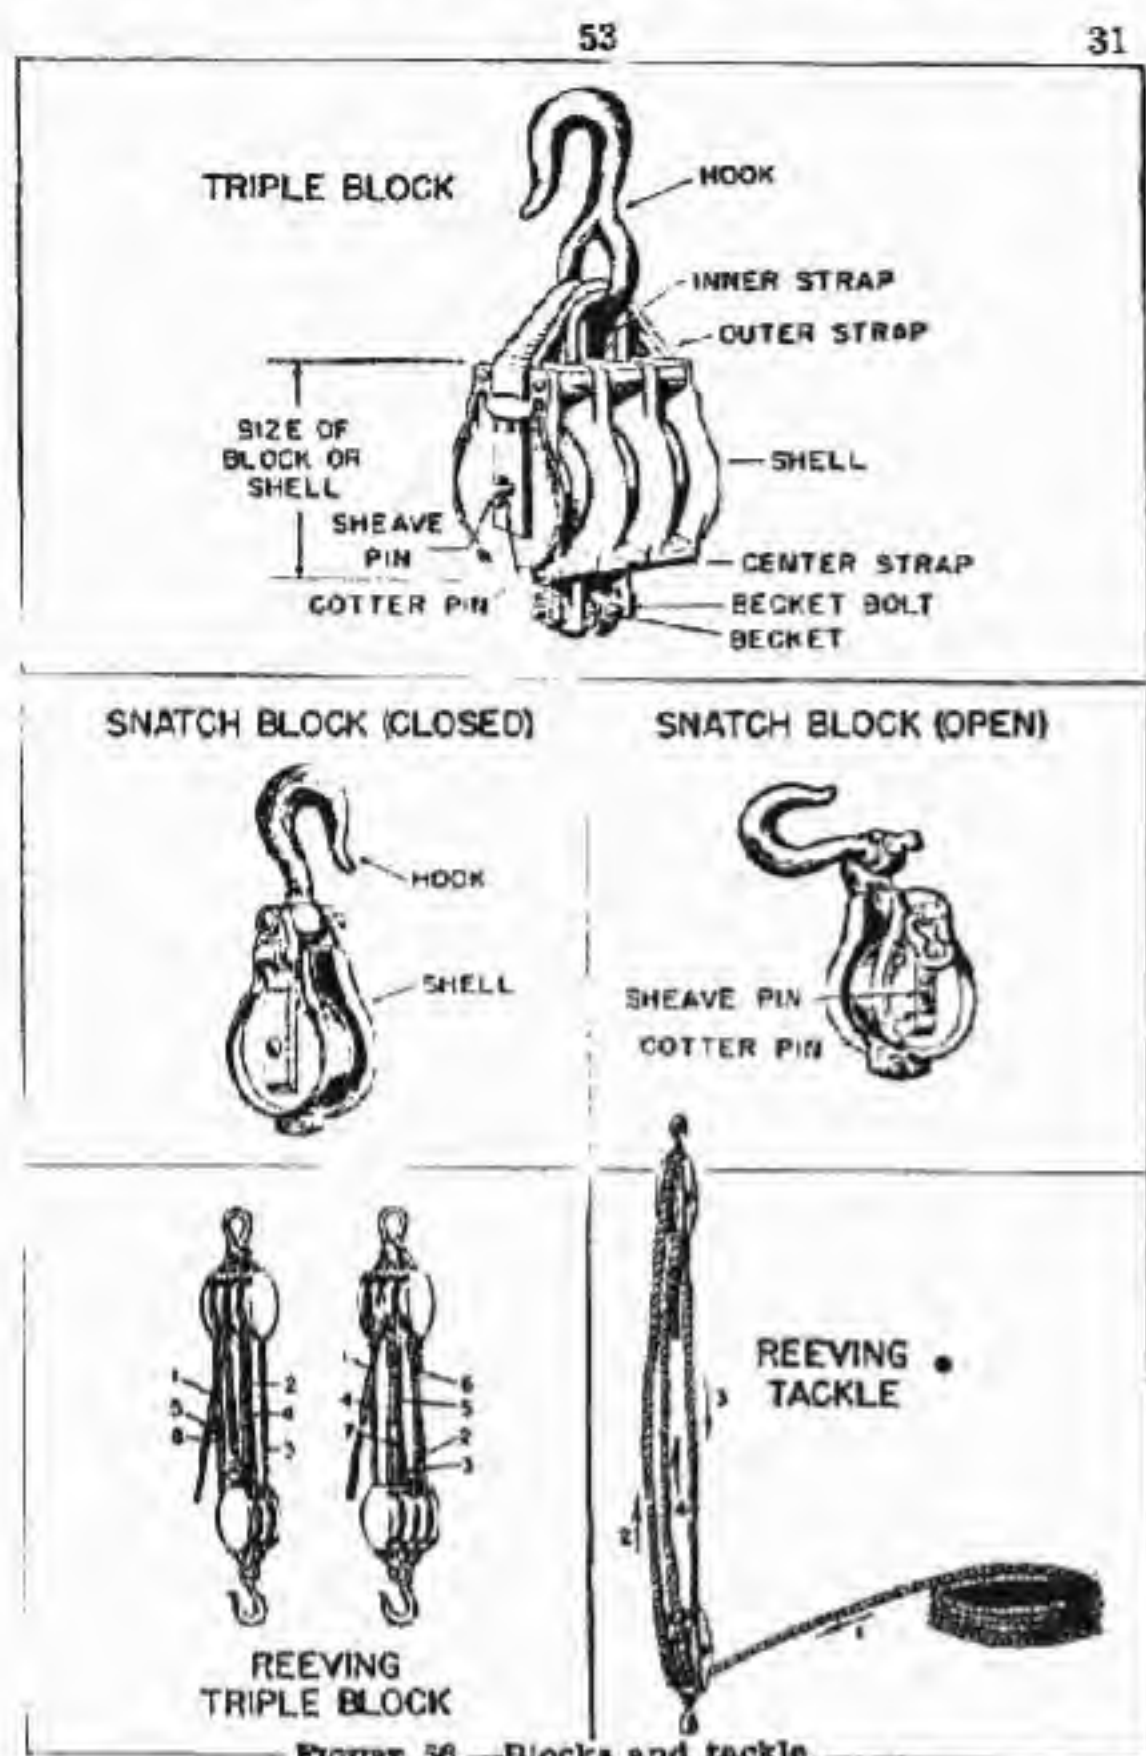

FIGURE 56.—Blocks and tackle.
■ 30. **BLOCKS AND TACKLES** (figs. 56 and 57).—The parts of a block are the shell or frame, the sheave or wheel upon which the rope runs, and the pin upon which the wheel turns in the shell. Blocks are designated by the length of the shell in inches and by the number of the sheaves. Those with one, two, three, or four sheaves are called single, double, triple, and quadruple. The smallest size of block (length in inches) that will take a given rope is nine times the rope diameter. Self-lubricating blocks should be used where obtainable.